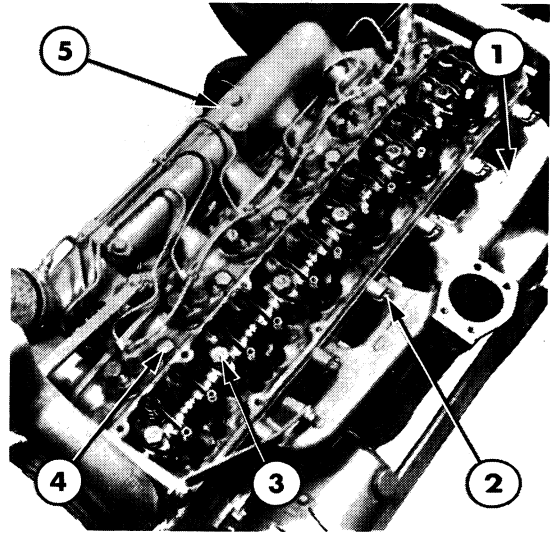

Figure 10
10. Visually check the push rods for straightness by rotating them with the valve closed. Loosen the rocker arm shaft bolts evenly and remove the assembly from the tractor, Figure 10.